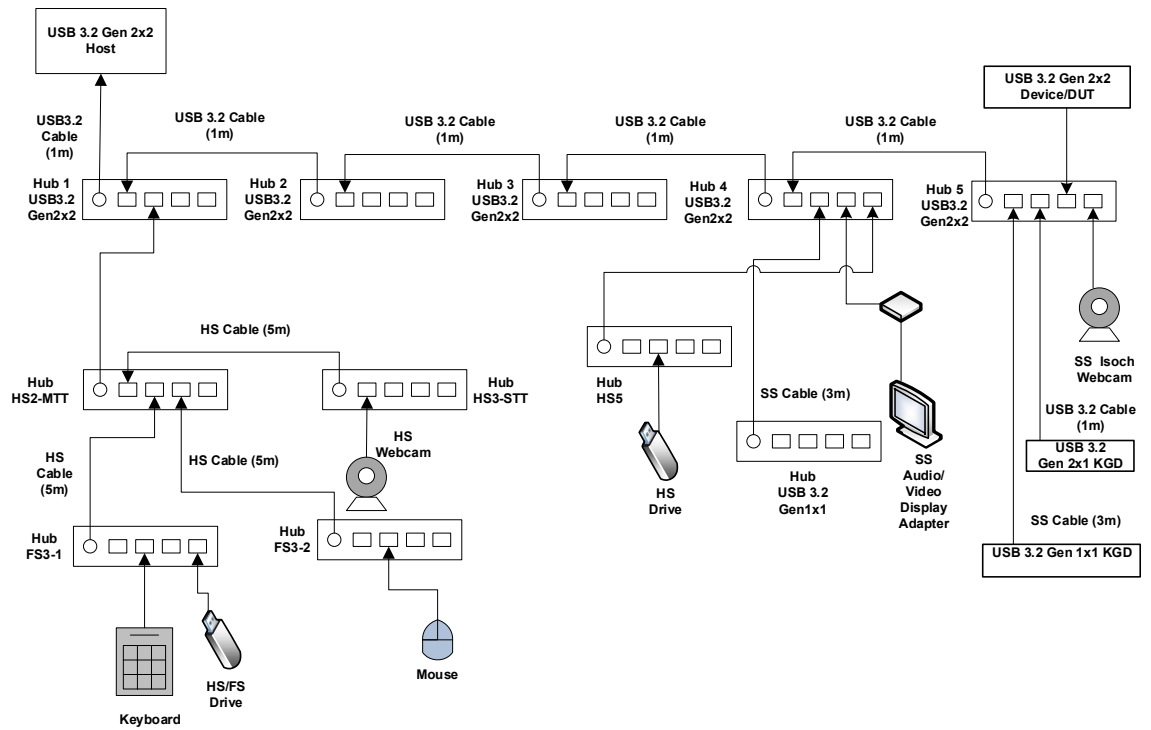

Figure 13-6: Modified USB 3.2 Gen 2x2 Hub/Host/Device Interoperability Interim Tree with USB 3.2 Gen 2x2 Hubs
- Connect the USB 3.2 Gen 2x2 tree as shown in Figure 13-6